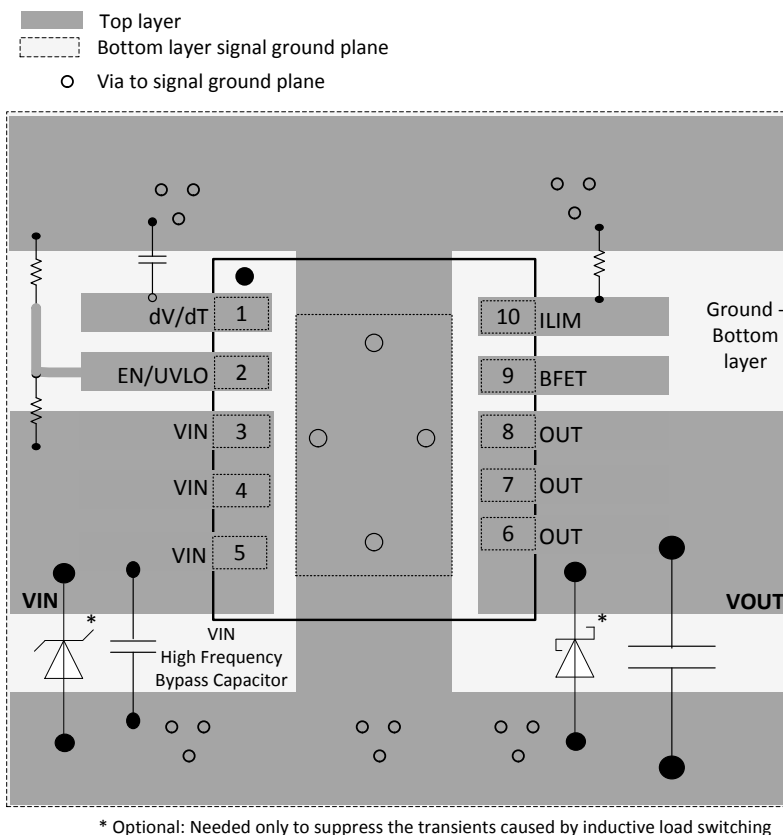

Figure 46. Layout Example
- The optimum placement of decoupling capacitor is closest to the IN and GND terminals of the device. Care must be taken to minimize the loop area formed by the bypass-capacitor connection, the IN terminal, and the GND terminal of the IC. See Figure 46 for a PCB layout example.